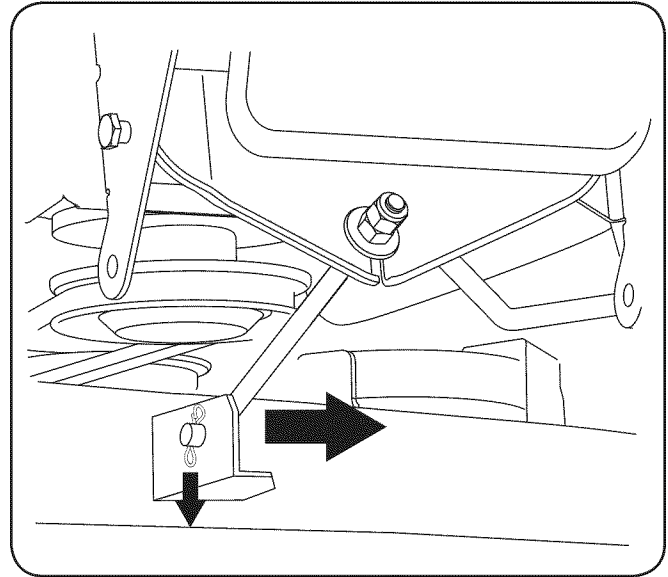

Figure 7-2
7. Remove the cotter pin from the end of the stabilizer rod and slide the stabilizer out of the hanger bracket on the deck. See Fig. 7-2.